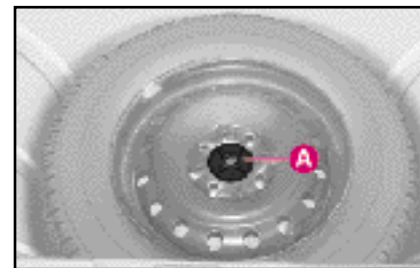

fig. 4
- Loosen the fastener **A-fig. 4** and take the spare wheel.